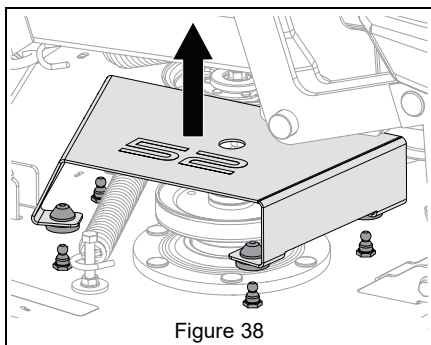

Figure 38
4. Lift belt covers to remove from mower deck. See Figure 38.